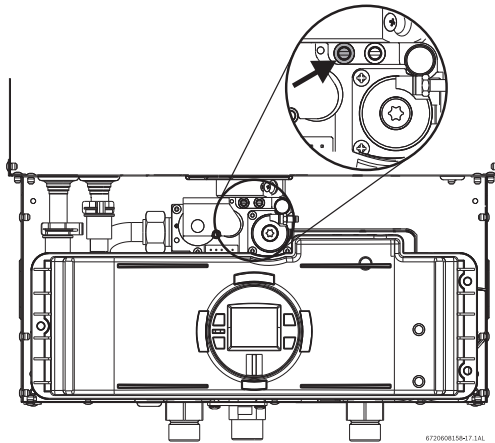

Fig. 42 Gas pressure test port (left tapping)
- ▶ Remove front cover and locate inlet gas pressure measuring point (see Fig. 42).